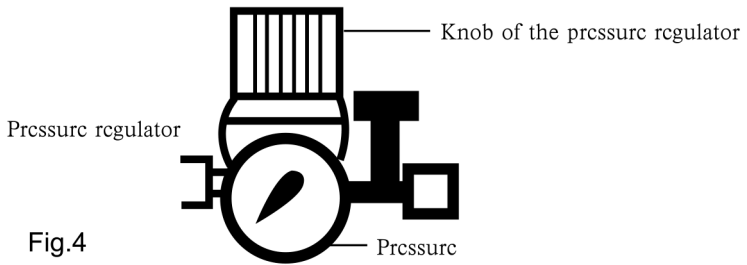

Fig.4
a.pull out upward the knob of the pressure adjuster turn clockwise to increase the exhausting air pressure to a rated maximum pressure the same as in the air storage tank (Figure 4)